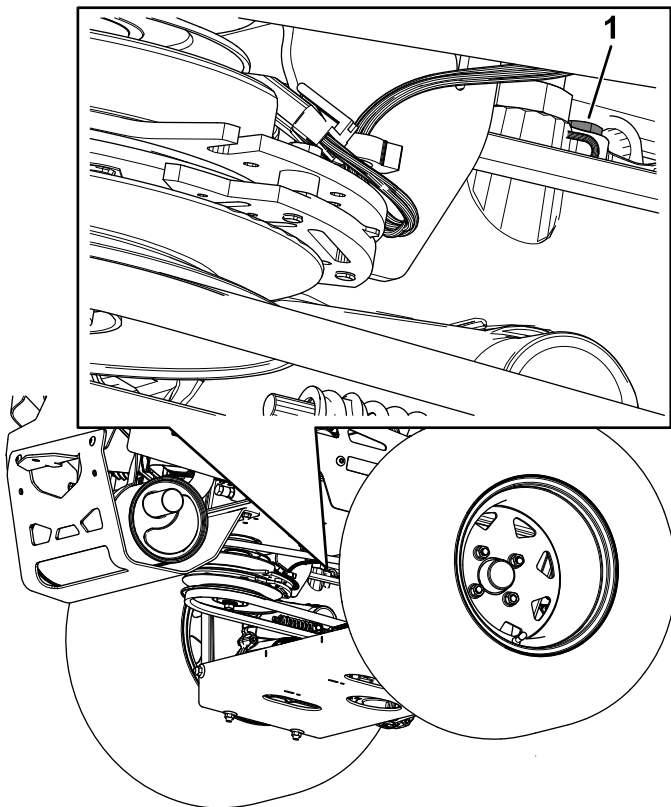

**Figure 86**
- **For ZT 4400 Hydros**, use an extension and 7/16-inch socket, access the vent plug from the top of the machine through the holes near the roll-bar mounts (Figure 86).